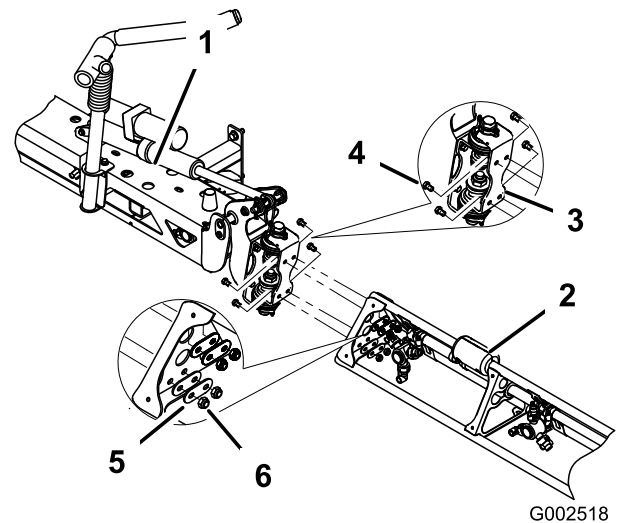

Figure 15
7. Install the extension boom to the center boom at the hinge plate using the 4 bolts, 4 washers, and 4 nuts that you removed in step 6 as shown in Figure 15.